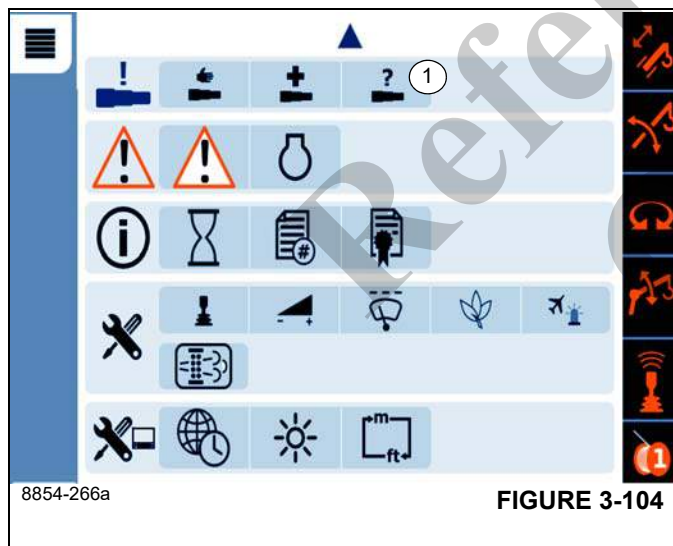

FIGURE 3-104
Select and confirm the symbol (1), (Figure 3-104) – for the Access Reset Telescoping screen.